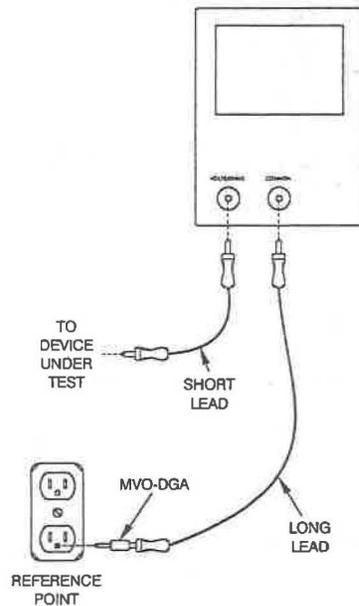

Figure 8
2. Place the function knob (A) on **TEST** and the range knob (E) on **OHMS**.
3. Make the required ground resistance connections using the special leads (I) provided. (The meter is internally adjusted for these leads. See the note on the next page.) See Figure 8.